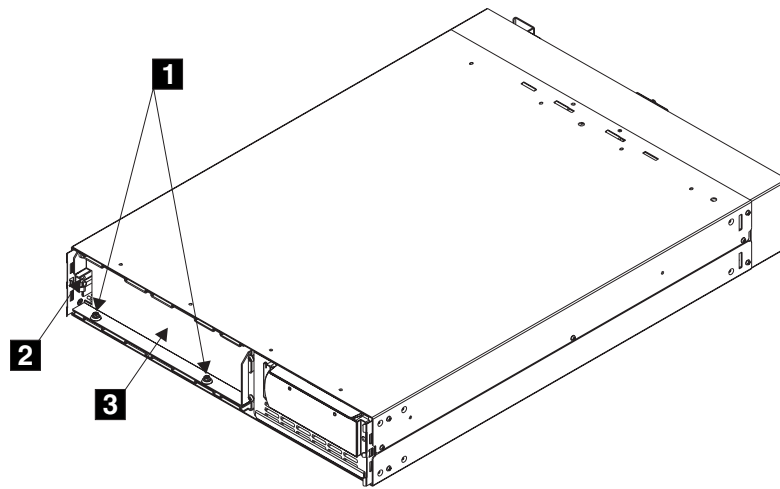

Figure 31. Fastening the battery retaining bracket
- c. Remove the two bolts **1** and additional nut **2** on the left side of the bracket, as shown in Figure 31 on page 43. Next, remove the battery